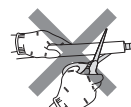

Fig. 1
- Do not cut the drain hose of the unit. (Fig. 1)